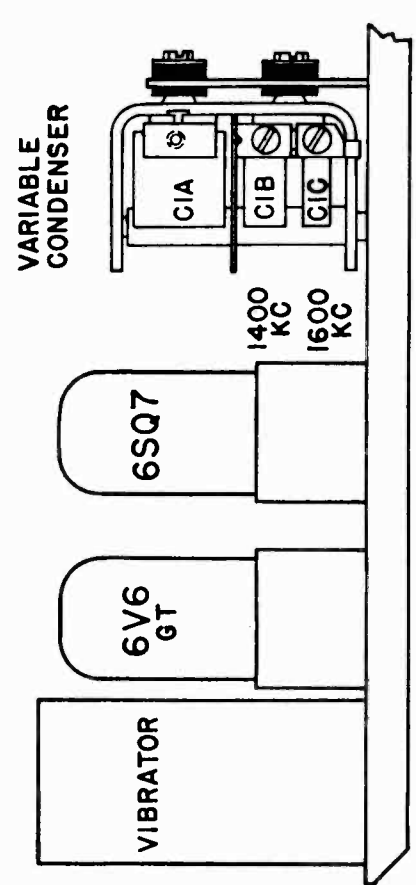

Fig. 5. Trimmer Locations
- For alignment points refer to Figures 5 and 6.